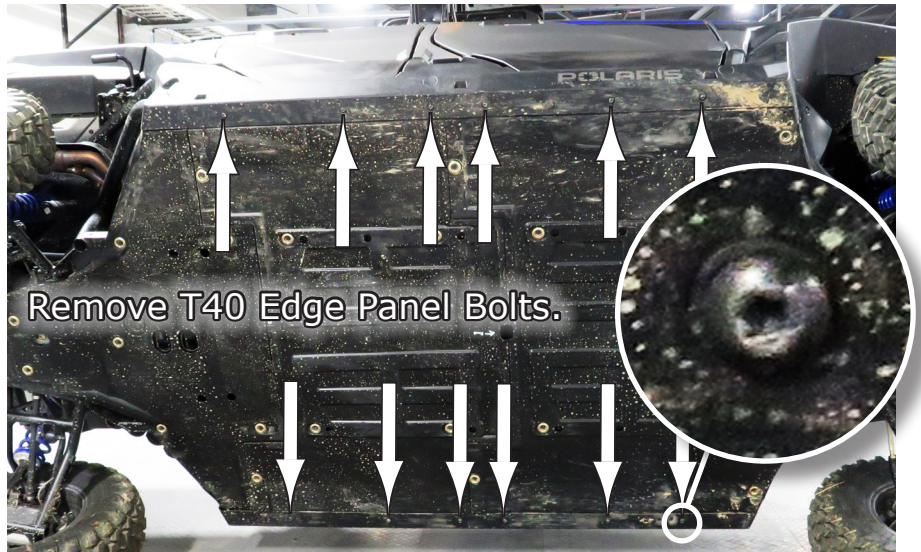

Fig.1
1. The first thing you need to do is remove the **T-40** bolts holding on the lower side edge panels from the front to the back as shown in **Fig.1**. Repeat for opposite side.